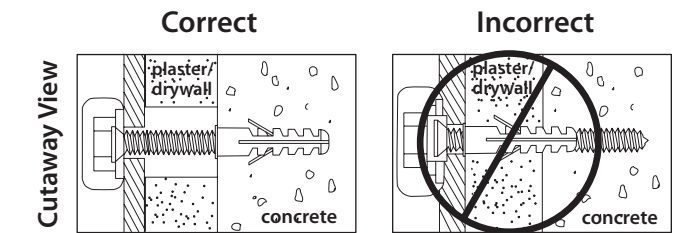

Figure 2
- Pre-drill holes into concrete using 5/16" drill bits to a depth of 2 1/2". Insert concrete wall anchors (U) and tap in-with hammer, if necessary (Figures 2 & 3).